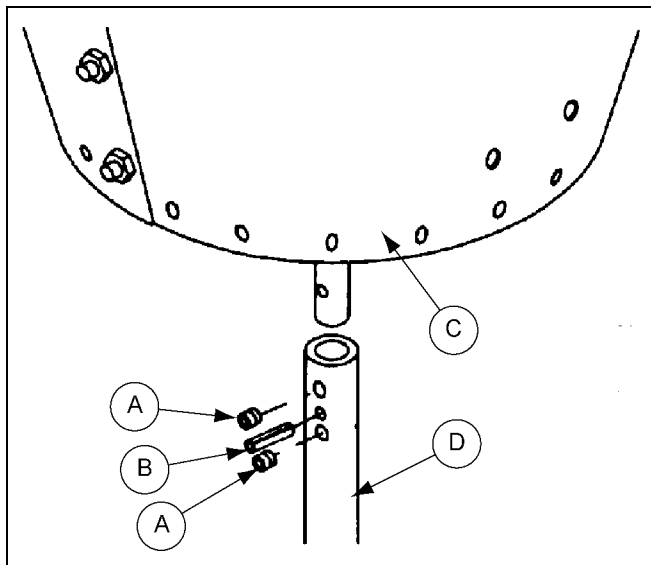

Figure 3A *Spreader Cone Assembly and Blade Assembly Connection*
The Scattergrain is a direct drive spreader. The unit is powered by a totally enclosed, 1 HP motor. Two (2) types of motors are offered with the super spread. One has a 1 phase motor (FFD-200-1) and the other model has a 3 phase motor. (See Figure 3A.) Maximum grain capacity is 4000 to 6000 bushels per hour, depending on moisture content, weight and fines evenly throughout the bin. This will help prevent uneven drying.
1. Carefully unpack the unit and inspect for shipping damage. (See Figure 3A.)
2. Check tightness of all bolts in the cone (C) and blade assemblies (D).